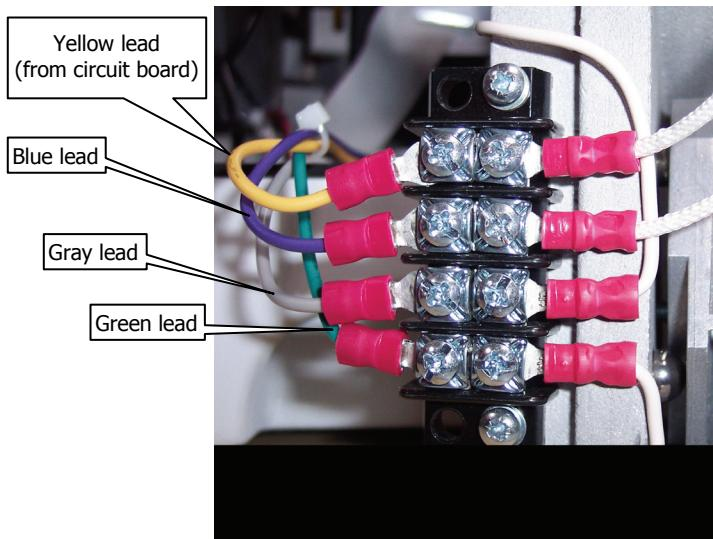
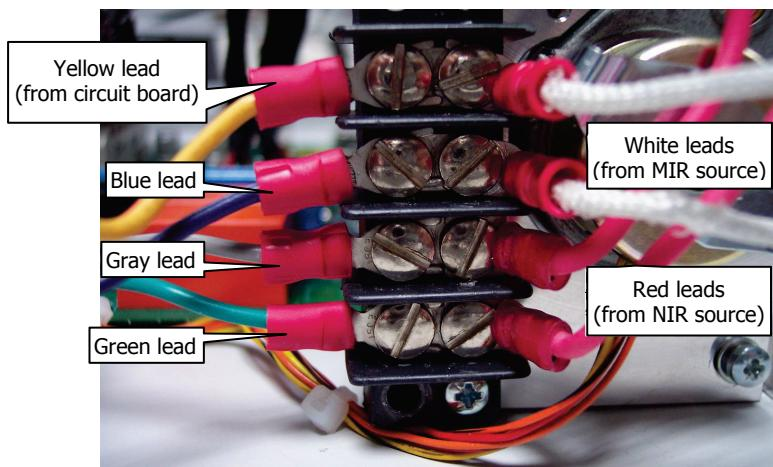

Figure 5 Circuit Board to Source Mirror Connections
Figure 10 Circuit Board to Dual-Source Mirror Connections
For clarity, Figure 5 shows the wires connected to the terminal block with the circuit board removed from the spectrometer.
5. Connect the four color-coded wires to the terminal block on the source mirror assembly (Figure 5) or dual-source mirror assembly (Figure 10), as applicable.